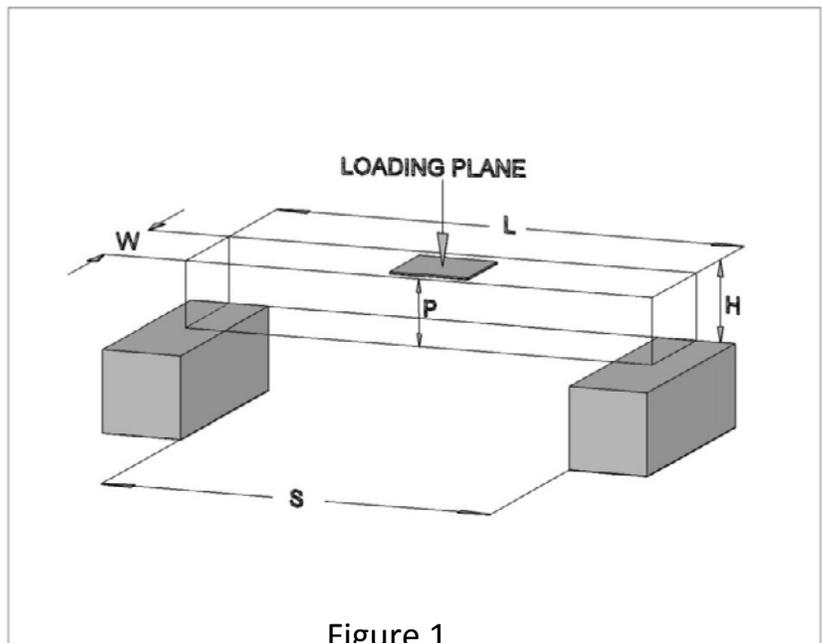

Figure 1
- b. The bridge must span a gap (**S**) of 300 mm (**hint: bridge must be longer than 300 mm**), be no longer (**L**) than 400 mm, be no taller (**H**) than 100 mm above the support surface. The bridge width (**W**) must be at least 40 mm and be no wider than 80 mm. No part of the bridge may extend below the support surface (**see Figure 1**).
two possible loading locations to be positioned 50 mm to the right and 50 mm to the left of the center of the bridge. The loading plane (**P**) shall be horizontal and shall lie on the physical top of the bridge between 50 mm and 100 mm above the support surfaces (**hint: top of the bridge must be taller than 50 mm but no taller than 100 mm**) (**see Figure 1**).